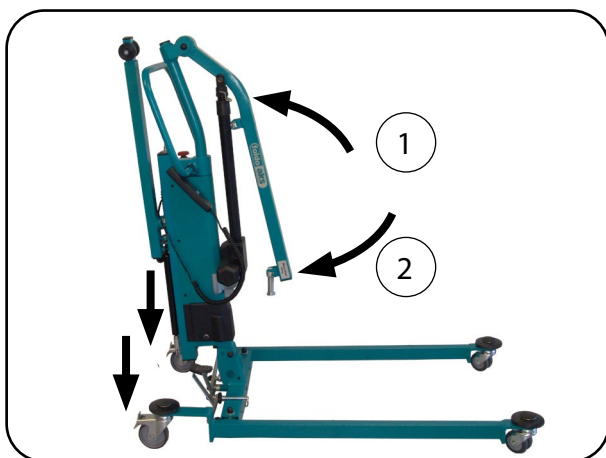

Fig.13.2.03 – Swivelling the lift drive and lifting arm
1. Brake the two rear castors on the operator side by activating the foot lever (Fig. 13.2.03) (see chapter on Operation, section **Castors**).
3. First swivel the lift drive and then swivel the lifting arm to the stand mast. Fix the lift drive and lifting arm to the stand mast using cable ties or Velcro strip (Fig. 13.2.03).